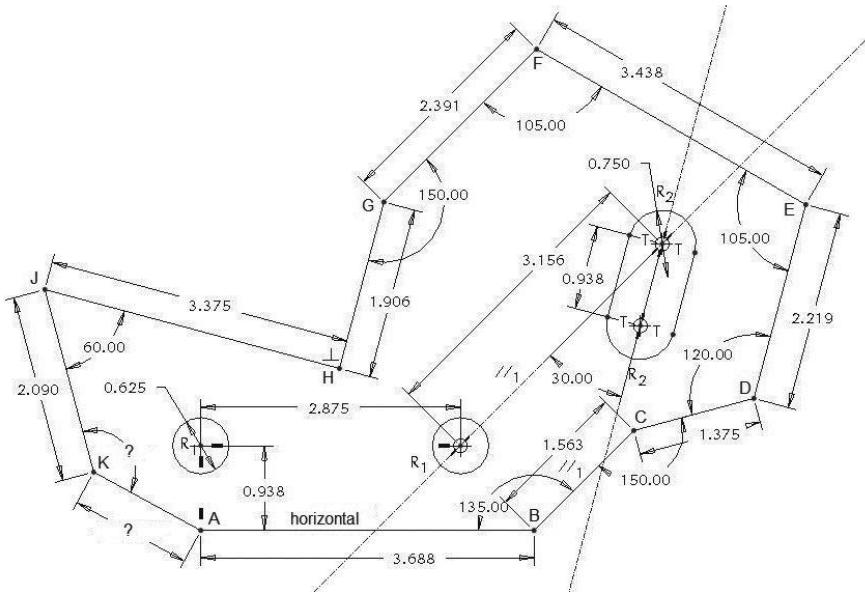

Figure 3-70 Problem 1
- 3.1** Draw shear plate61 (Figure 3-70). **Design Intent**—The left hole must be directly $15/16$ inches above the lower left corner at point A. The right hole must be 2.875 inches from the left hole. The slot must be oriented 30 degrees from the indicated centerline. What is the length of line KA and the angle at K? (Use 3-place decimals for lengths.)